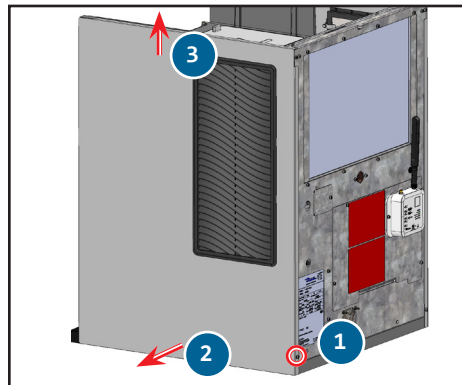

Fig. 3. Remove the screw, pull the panel free from the adhering tabs, then lift.
4. Remove the right side panel. See fig. 3.